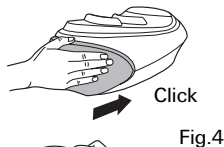

Fig.4
3. Replace the water tank into the base unit again. It will be locked in place with the base unit until a "click" sound is provided. (See Fig.4)